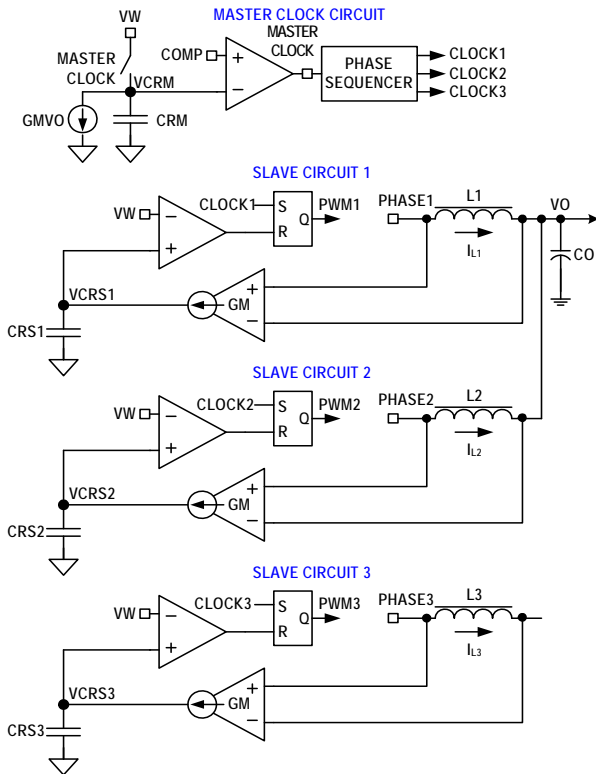
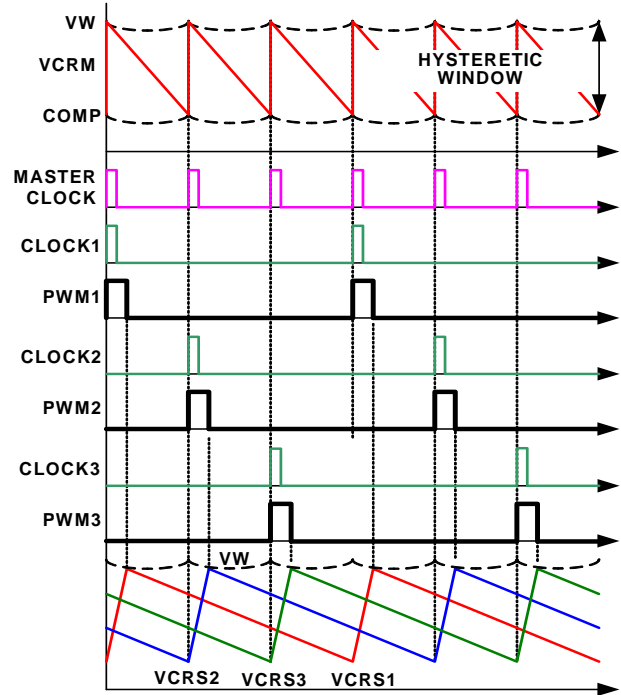

FIGURE 6. R3™ MODULATOR CIRCUIT
FIGURE 7. R3™ MODULATOR OPERATION PRINCIPLES IN STEADY STATE
The ISL62771 is a multiphase regulator implementing two voltage regulators, CORE VR and Northbridge (NB) VR, on one chip controlled by AMD's™ SVI2™ protocol. The CORE VR can be programmed for 1- or 2-phase operation. The Northbridge VR only supports 1-phase operation. Both regulators use the Intersil patented R3™ (Robust Ripple Regulator) modulator. The R3™ modulator combines the best features of fixed frequency PWM and hysteretic PWM while eliminating many of their shortcomings. Figure 6 conceptually shows the multiphase R3™ modulator circuit, and Figure 7 shows the operation principles.